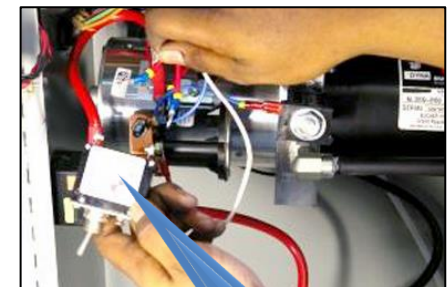

Figure 73
3. Remove the circuit breaker (Figure 73).